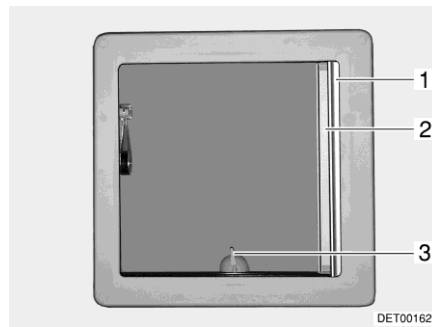
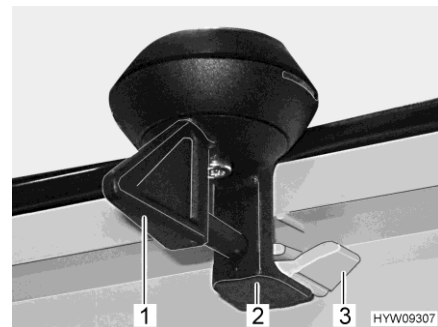

Fig. 50 Hinged skylight
Fig. 51 Lock (hinged skylight)
- Turn the lever (Fig. 50,3 or Fig. 51,1) one quarter turn.
- Turn the lever one quarter turn. The lock (Fig. 51,2) must slide into the bottom catch (Fig. 51,3).
- Pull out Roman shade (Fig. 50,1) and release in the required position. The Roman shade will stay in that position.
- Pull insect screen (Fig. 50,2) out until it engages with the latch on the opposite side.